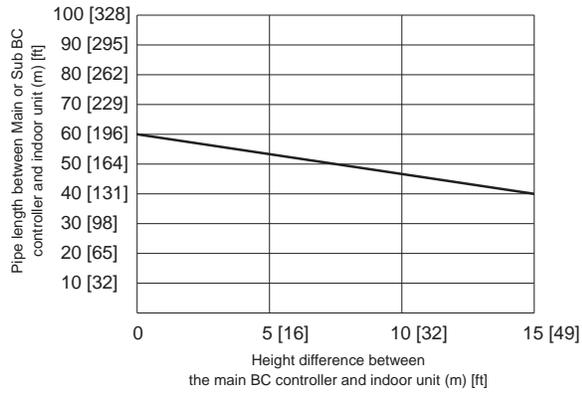

Fig.1
- *2 Refer to Fig. 1. (However, when P72 or P96 model of indoor unit is connected, the maximum allowable distance between BC controller and farthest indoor unit is 40 m.)
- *3 When the piping length or the height difference exceeds the restriction specified in Fig. 1, connect a sub BC controller to the system. The restriction for a system with a sub BC controller is shown in Fig. 2. When a given system configuration falls within the shaded area in Fig. 2, increase the size of the high-pressure pipe and the liquid pipe between the main and sub BC controller by one size. When using P12, P15, P18, P36, or P48 model of indoor units, increase the size of the liquid branch pipe between the sub BC controller and indoor unit by one size. When using P54 or larger model of indoor units, the restriction shown in Fig. 1 cannot be exceeded.
*3 When the piping length or the height difference exceeds the restriction specified in Fig. 1, connect a sub BC controller to the system. The restriction for a system with a sub BC controller is shown in Fig. 2. When a given system configuration falls within the shaded area in Fig. 2, increase the size of the high-pressure pipe and the liquid pipe between the main and sub BC controller by one size. When using P12, P15, P18, P36, or P48 model of indoor units, increase the size of the liquid branch pipe between the sub BC controller and indoor unit by one size. When using P54 or larger model of indoor units, the restriction shown in Fig. 1 cannot be exceeded.